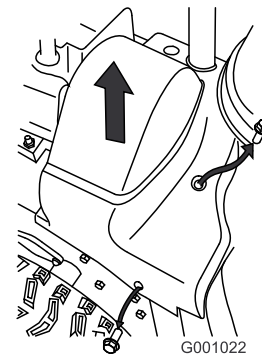

Figure 40
2. Lift up the right side of the belt cover (Figure 40).